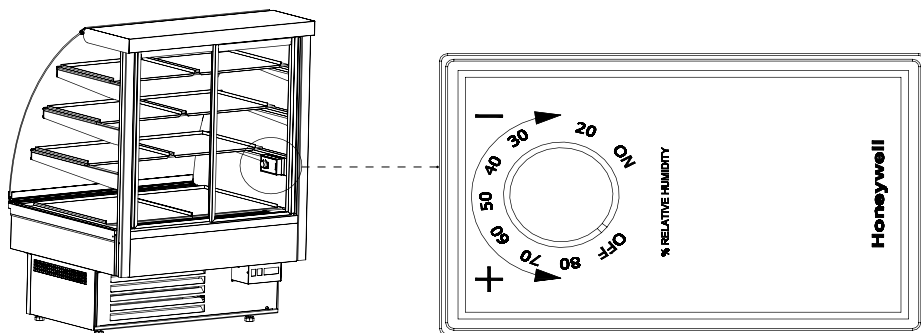

Fig.7 Hygrostat
- In case of display cabinets equipped with hygrostat (it does not concern Carel thermostat) it is possible to set the desired humidity inside the device by means of knob Fig.7 (p.17). Within the range of temperature between 10°C and 15°C it is possible to control air humidity between 30 and 80%.
Hygrostat is used to control humidity, when the temperature within the display cabinet shall fall between 10°C and 15°C. We may adjust the desired air humidity in the display cabinet, with the help of hygrostat knob, within the range between 30 and 80% by turning the knob Fig.7 (p.17) and setting it in a proper place. Turning the knob clockwise will decrease the set air humidity, and turning it in the opposite direction will increase the set air humidity. Turning the knob left to the final position shall switch off the hygrostat, despite the active power supply.